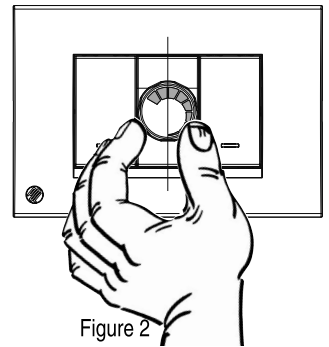

Figure 2
- 2 The module knob should then be fitted, ensuring that the thin end of the gradient scale is at the bottom lined up with the vertical (see figure 2).